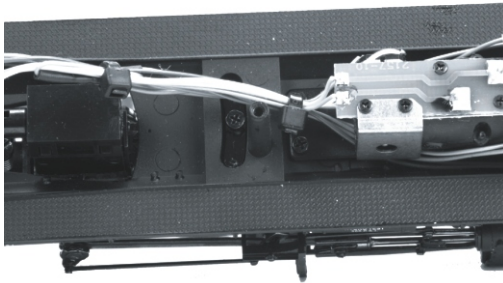

Figure 6
5. Re-insert the front chassis pivot screw as shown in Fig 6.